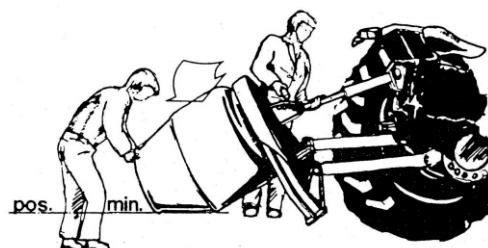

Fig 3
5. Manually tilt the front (mouth) of the mixer until the mixer is in the lowest position (emptying position). Unthread the cylinder completely and locate it into the suitable hole of the mixer. (fig 3).